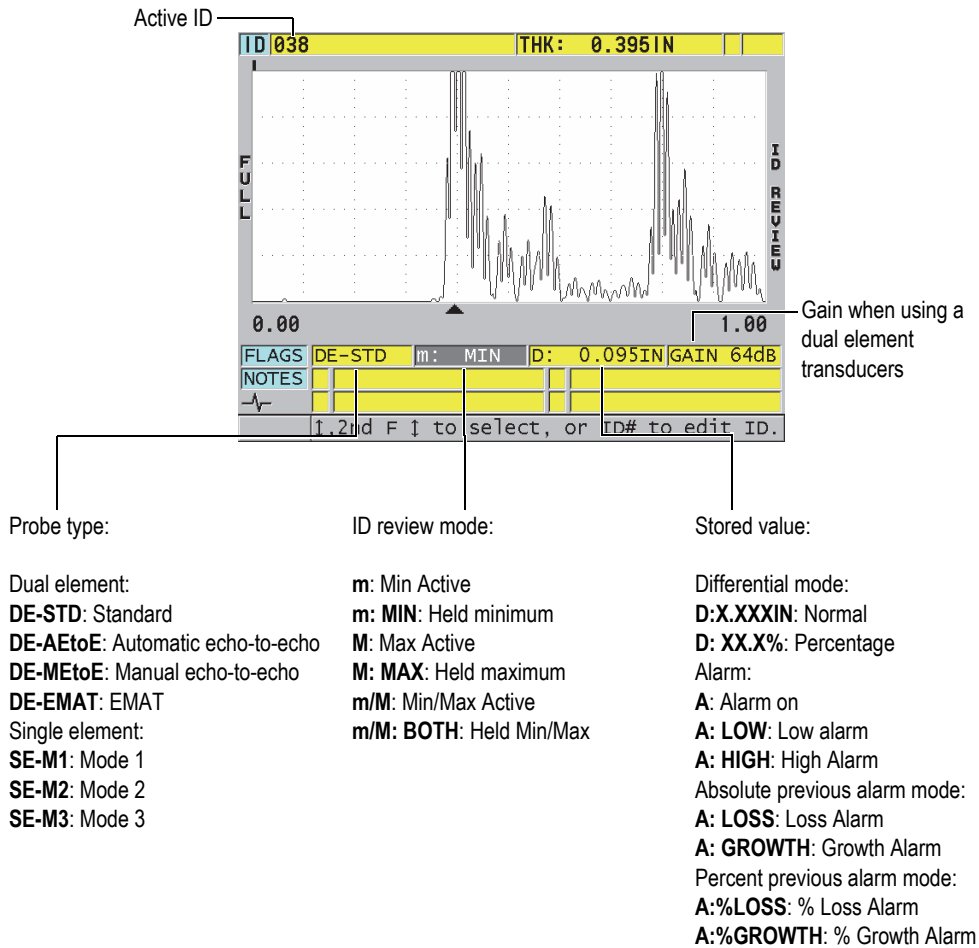

Figure 11-27 Identifying the ID review screen
Figure 11-27 on page 216 shows an example of ID review screen and describes its contents. The area under the waveform is reserved for status flags describing the displayed stored thickness values. The flags are the same single letter abbreviations for status words that are transmitted by the gauge using the send commands (see “Managing Communications and Data Transfer” on page 261).
3. While in the ID review screen (see Figure 11-27 on page 216):